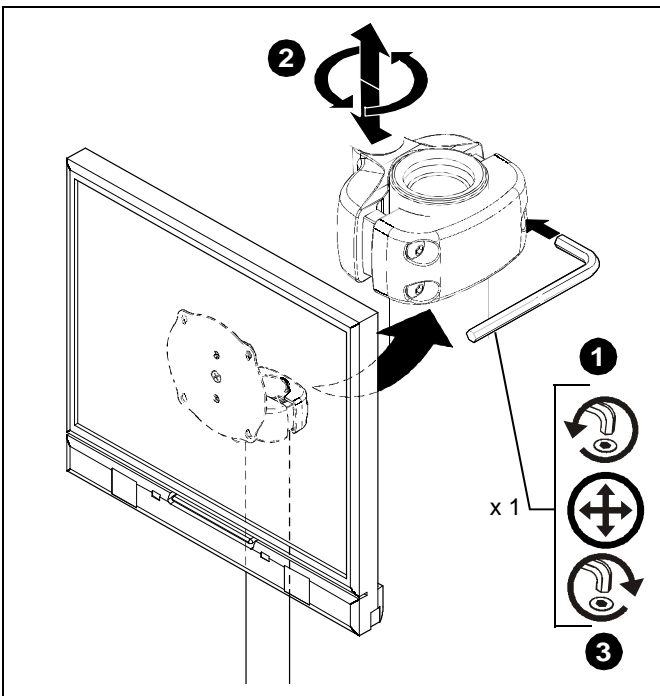

Figure 8
1. Loosen right button head cap screw (E). (See Figure 8)